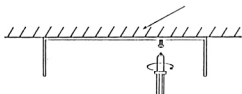

Figure 4
6. For setting the amp under the dash board panel of automobile with an attached mobile mounting bracket(option), please refer to Figure 4 and 5.
- ① Set the bracket to the dash board panel.